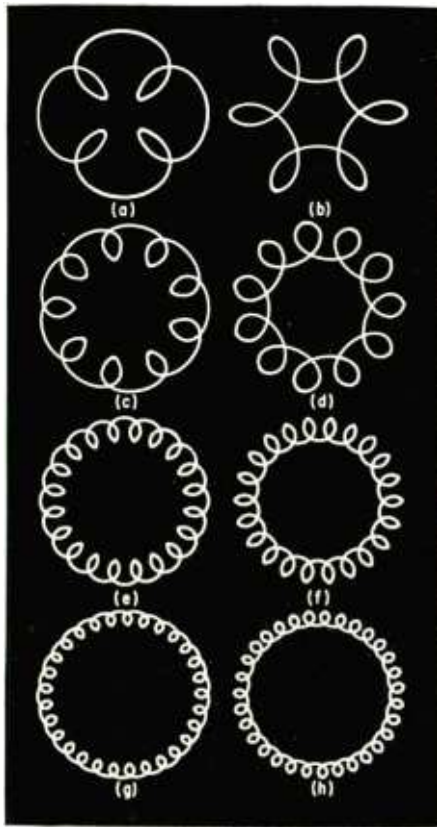

Fig. 3—Cycloid patterns of various frequency ratios. Outside and inside loop patterns are shown for each: a, b—5:1; c, d—10:1; e, f—21:1; g, h—30:1.
3. Return the amplitude of the low-frequency voltage to its previous value. The result should be a cycloid, such as you see in Fig. 3. Whether you will get an epicycloid or a hypocycloid depends on the phase of the two voltages at the transformer. By throwing the reversing switch, you can change from one kind of cycloid to the other.
Reading cycloids is simple. For the kind shown in Fig. 3, you count the loops made by the small voltage. If the loops are inside the circle, add 1, for the number of loops plus 1 is the frequency ratio. If the loops are outside the circle, subtract 1. The number of loops minus 1 is the frequency ratio. Now as you can see, ratios of as much as 51 to 1 are duck soup with such cycloids. Ratios of 100 to 1 can be counted.